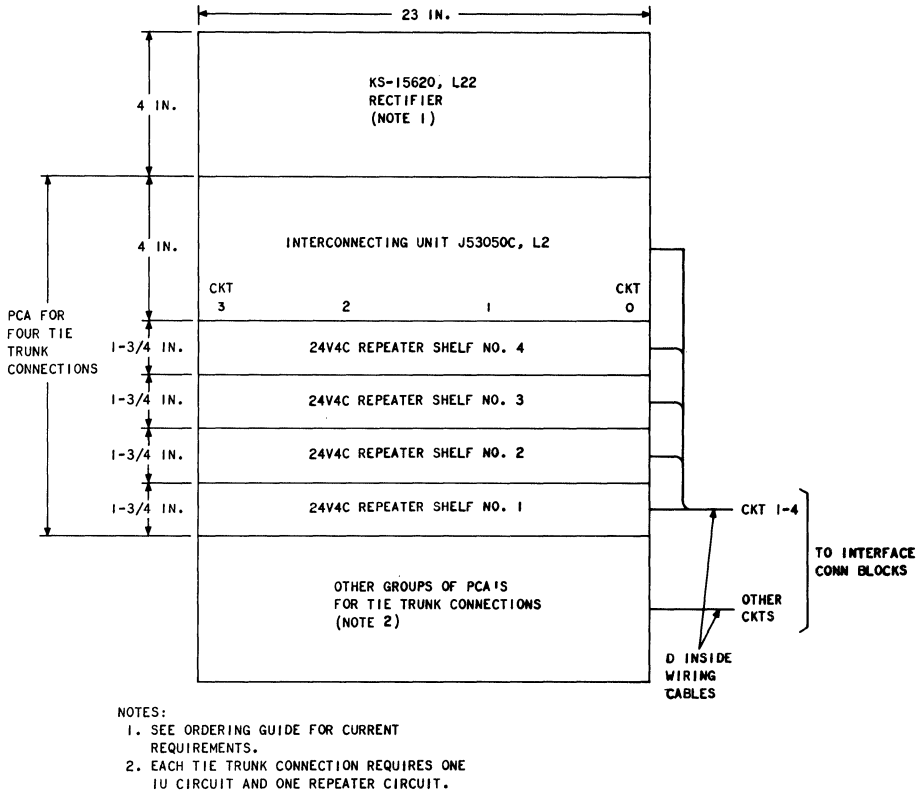

Fig. 6—Typical Rack Mounting—PCA C24 (PBX) or C2H (Centrex-CU), Front View
3.01 Locate the PCAs in an area free of dampness and excessive dust or dirt with adequate room for access to front and rear of equipment and connecting blocks. The associated equipment typically mounts on a standard 23-inch relay rack. (Fig. 6, 7, and 8).